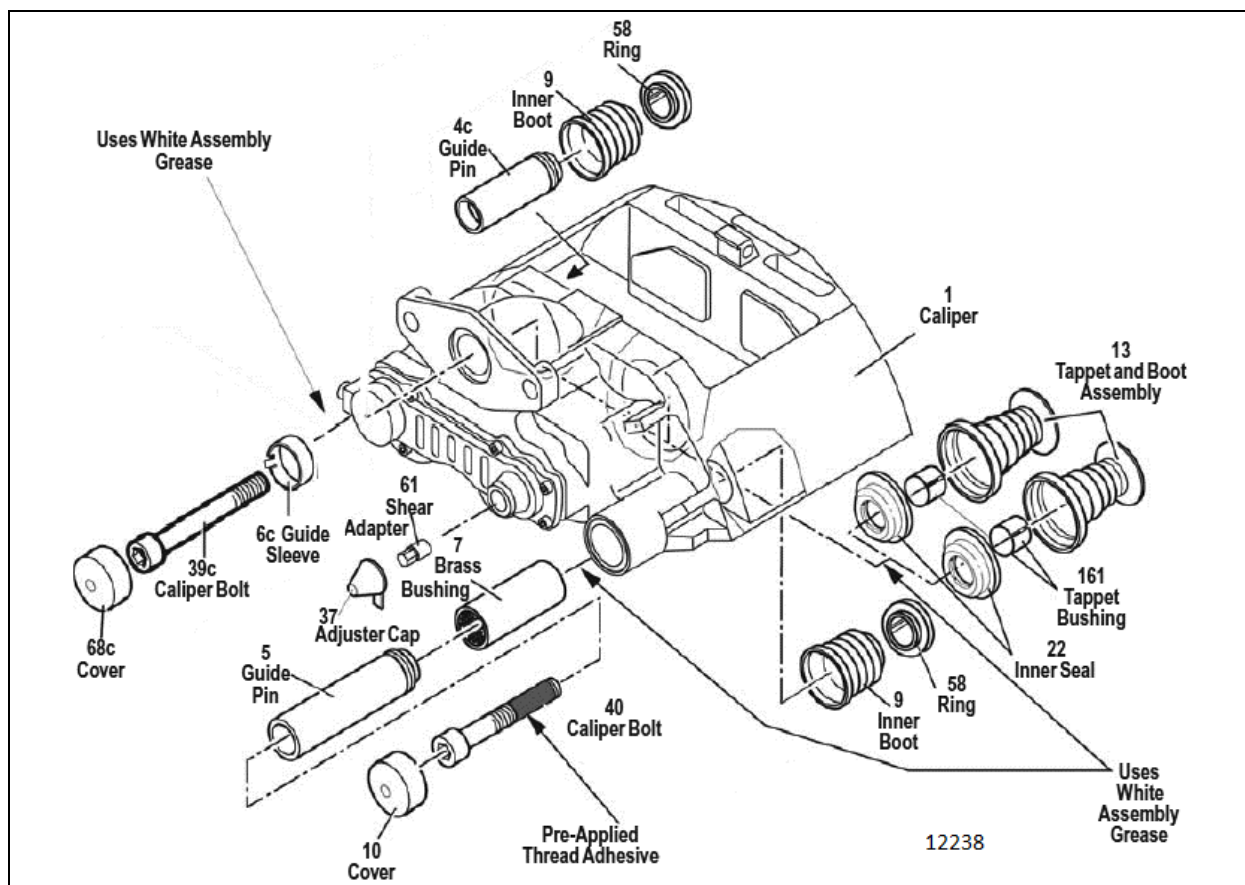

FIGURE 22: BRAKE COMPONENTS
At each pad replacement, make sure the caliper operates smoothly over its full range of movement. If the caliper shows the following signs, replacement of the guide sleeve (6c, Figure 22), guide pin, screw (39) and cap is required.
Additionally, inspect the tappet and boot assemblies (13, Figure 22), the adjuster cap (37) and the sealing elements (9, 58) for correct fitting and condition as well as the caliper bearing in the area of the rubber bush/guide sleeve (6) (see *Knorr-Bremse Pneumatic Disc Brake Y006471 Service Manual*).